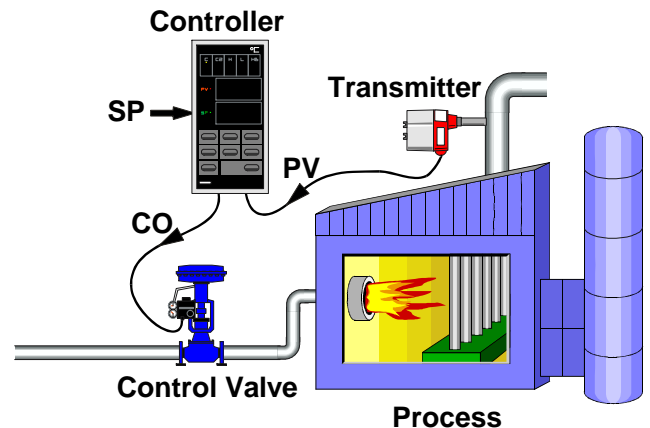

Figure 2. Automatic Control
To relieve our operator from the tedious task of manual control, we automate the controls - i.e. we install a PID controller (Figure 2). The controller has a Set Point (SP) that the operator can adjust to the desired temperature. We also have to automate the control valve by installing an actuator (and perhaps a positioner) so that the Controller's Output (CO) can change the valve's position. And finally, we'll provide the controller with an indication of the temperature or Process Variable (PV) by installing a temperature transmitter. The PV and CO are mostly transmitted via 4 - 20mA signals.